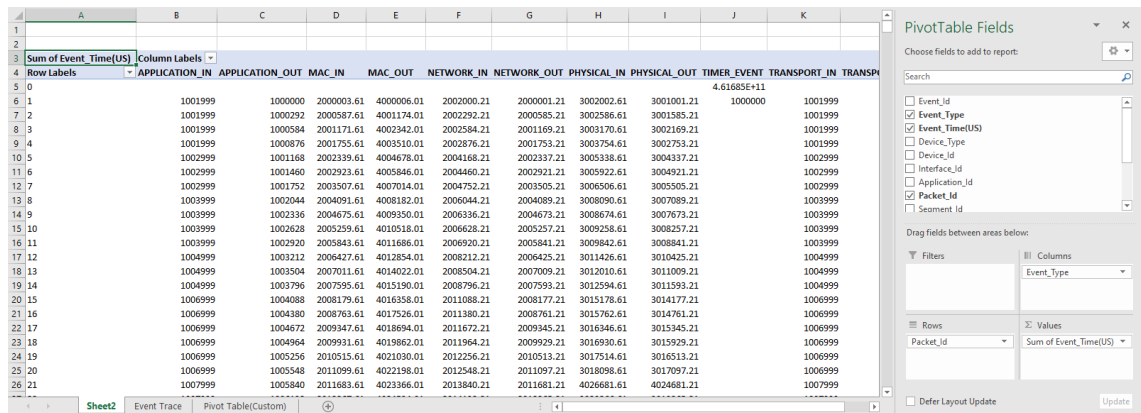

Figure 1-9: Adding fields into Columns, Rows and Values
5. Now drag and drop **Packet_Id** to **Rows** field. Similarly, drag and drop the following: **Event_Type** to **Columns** field, **Event_Time** to **Values** field as shown Figure 1-9.